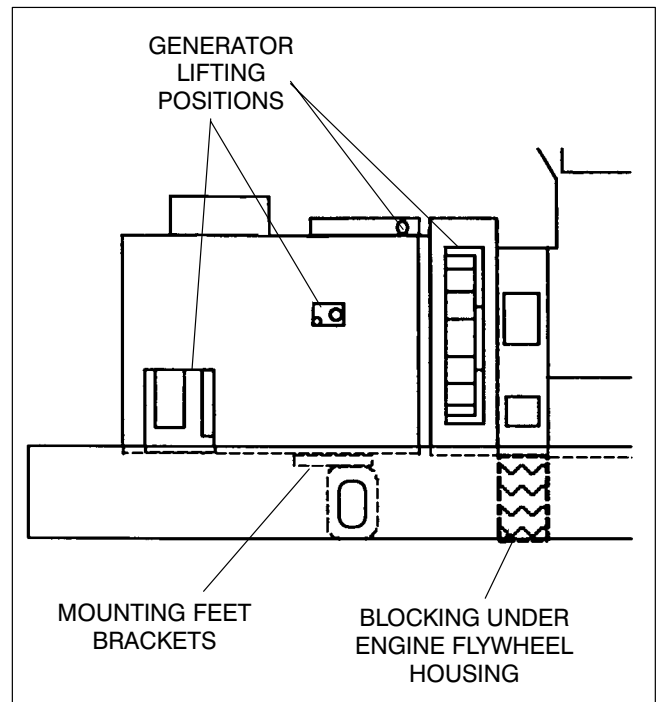

**FIGURE 6-8. REMOVING CONTROL HOUSING**
4. Disconnect all load wires from the reconnection terminal block assembly (see Figure 6-8). If equipped with the circuit breaker option, disconnect load wires from circuit breaker. Check that all leads are labeled to ease reassembly.
7. Use a hoist or similar lifting device to support the control housing assembly (see Figure 6-8).